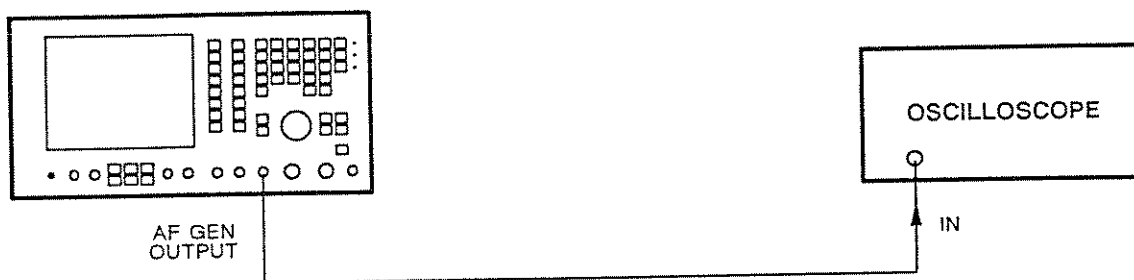

Fig. 6-17 Test equipment connections for AF generator waveform shapes
- (1) Connect the oscilloscope to the AF GEN OUTPUT socket. See Fig. 6-17.
- (2) Set the oscilloscope to DC, 0.5 V/DIV, 0.2 μ s/DIV time-base.
- (3) On the 2955B, set the MODE to AUDIO TEST. Press the TONES and AUDIO SETUP keys. Ensure that GEN 1 is ON and GEN 2 is OFF. Set the GEN 1 FREQ to 1 kHz, LEVEL to 1 V and SHAPE to SQUARE.
- (4) On the oscilloscope, check for a square wave equal about ground of 4 divisions.
- (5) On the 2955B, set the SHAPE to TRIANGLE.
- (6) On the oscilloscope, check for a triangle waveform equal about ground of 4 divisions.
- (7) On the 2955B, set the SHAPE to SAW TOOTH.
- (8) On the oscilloscope, check for a saw-tooth waveform equal about ground of 4 divisions.